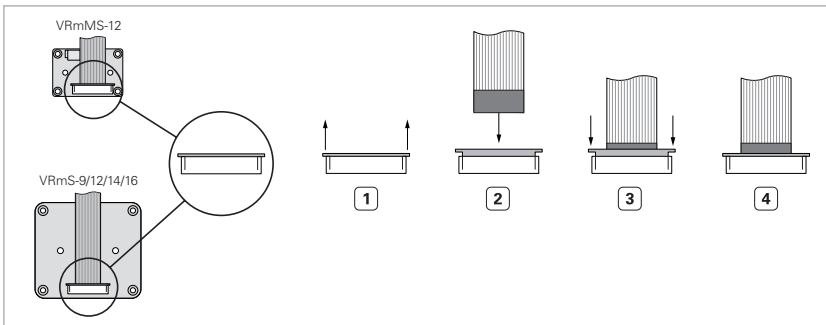

Fig. 10: Connecting the flex-foil cable to the sensor board
1. Pull out the lock of the connector on the sensor board (➡ Fig. 10 on page 18).
2. The other end of the cable splits into open ends or receptacles for trigger, strobe, and external power supply, depending on the accessory kit you ordered (➔ Fig. 10 on page 18). Connect trigger and strobe, if required.